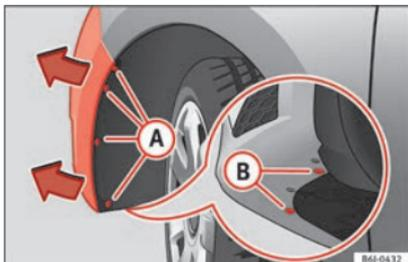

Fig. 103 Fog light: access to the connector and to the light bulb holder.
- Remove the 4 bolts **A** » **Fig. 103** from the inside of the wheel housing and the 2 bottom bolts **B** » **Fig. 103** from the bumper with a screwdriver.